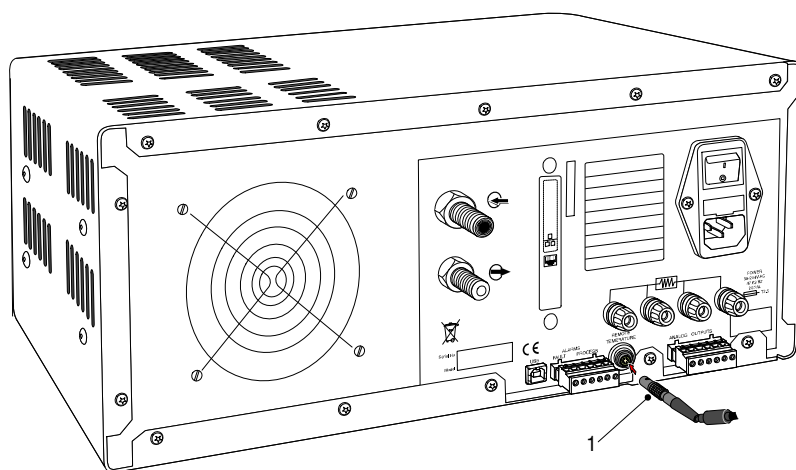

Figure 2.6 Remote PRT Connection
1. Rotate the body of the PRT probe connector until it locates in the socket labeled **REMOTE TEMPERATURE** (See *Figure 2.6*).
3. To remove the connector, slide the connector's body collar (1) back along its axis, away from the instrument, to release the lock. Gently pull the connector body out of the socket. **NOTE: Do not attempt to pull the connector out with the cable - make sure that the collar is first released.**